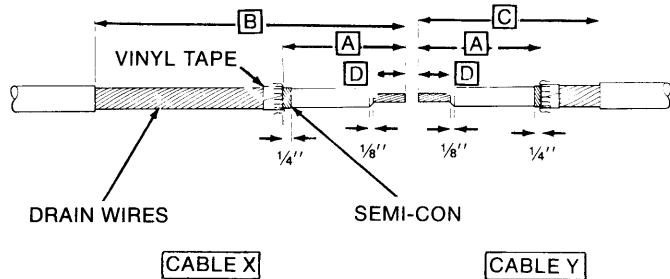

Figure 1
2. Remove jacket to distance [B] and [C] for cables "X" and "Y" respectively (Figure 1, Table A).
3. Apply two wrap of vinyl tape at dimension [A] on both cables. Figure 1. Wires must be uniformly spaced around cable between jacket and vinyl tape. Do not allow wire overlaps.